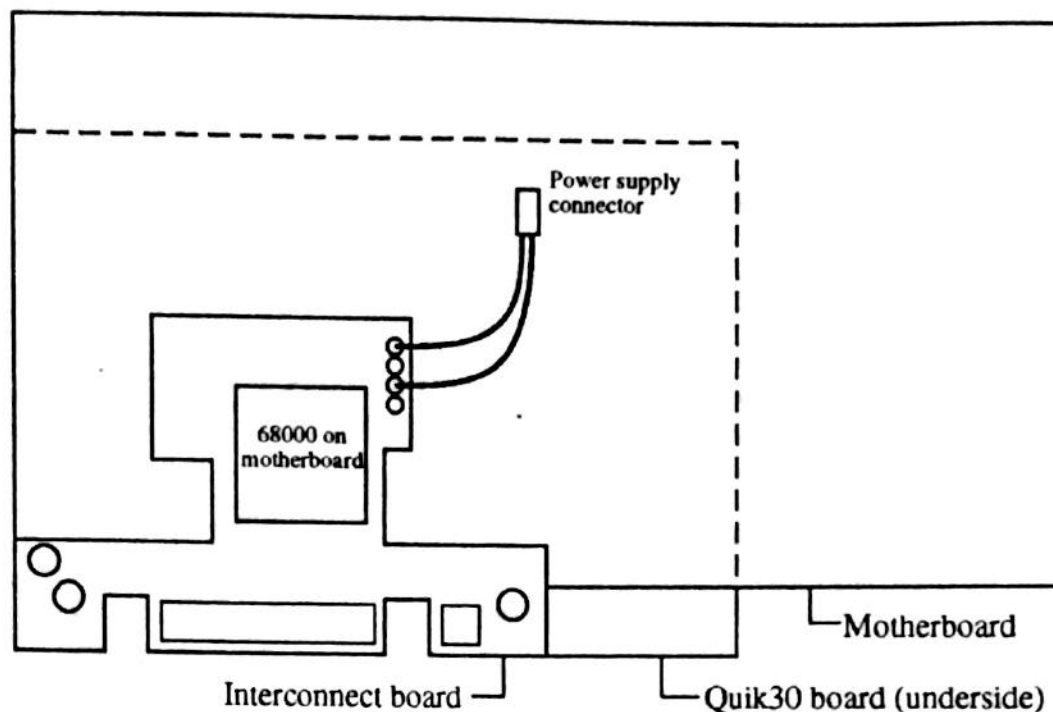

Figure 3 - Quik30 Location on Motherboard - Top View
1. Hold the motherboard with the component side up as shown in Fig. 3.
2. Locate the 68000 processor on the motherboard. Refer to Figure 3 for location.
4. Position the Interconnect board over the motherboard, aligning the 68-pin clip on the bottom of the Interconnect board with the 68000 processor on the motherboard. Refer to Fig. 3 for location and orientation.